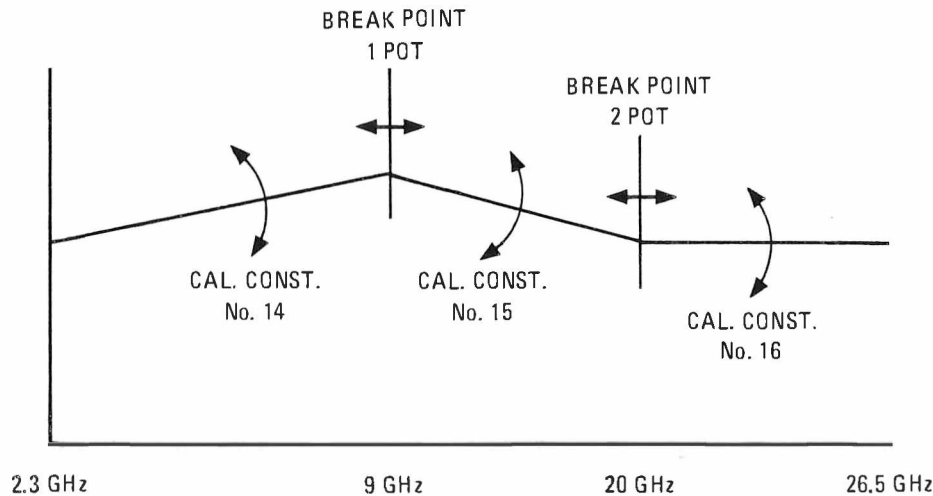

Figure 5-61. Relationship of Flatness Adjustments Diagram
27. Refer to Figure 5-61 and make adjustments as follows: